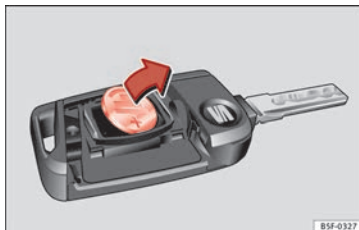

Fig. 136 Vehicle key: removing the battery.
- Extract the battery from the compartment using a suitable thin object **Fig. 136**.
- Place the new battery in the compartment as shown **Fig. 136**, pressing in the opposite direction to that shown by the arrow **①**.